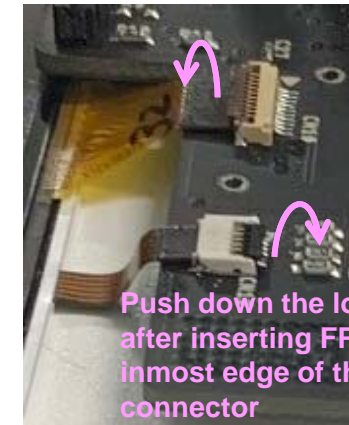

Fig.4 Example of 2.7" with B/L (Connector **locked**)
- (3) Lock the connector (Push down the lock lever) (Fig.4).